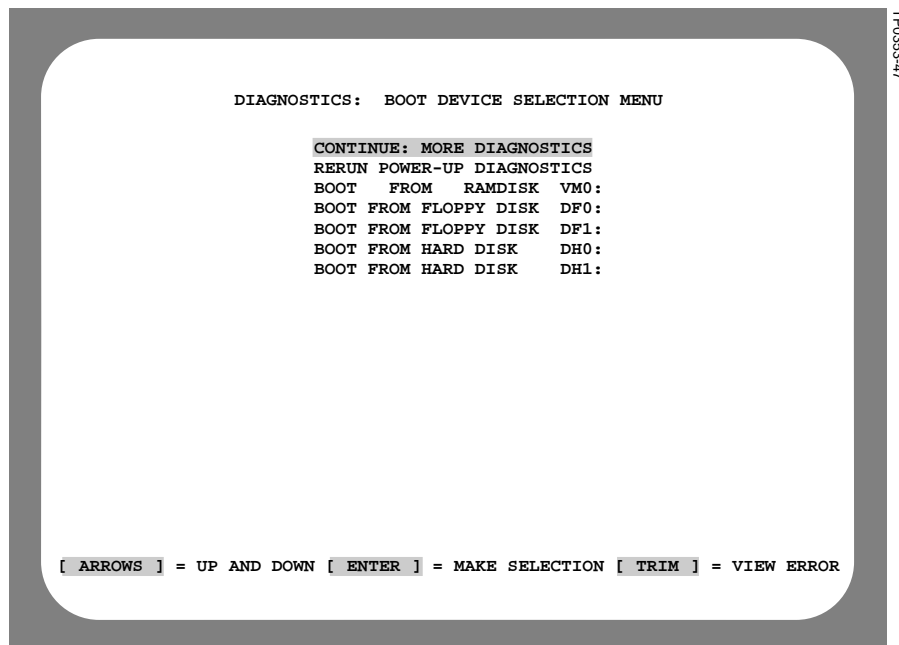

Figure 3-12. Boot Device Selection Menu
3. Press any key. The Boot Device Selection menu appears. (See Figure 3-12 for an example.)